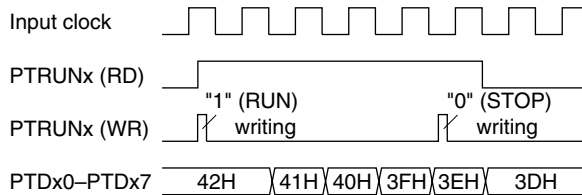

Fig. 4.11.10.1 Timing chart for RUN/STOP control
- (1) When reading counter data, be sure to read the low-order 4 bits (PTDx0–PTDx3) first. Furthermore, the high-order 4 bits (PTDx4–PTDx7) should be read within 0.73 msec (when  $f_{OSC1}$  is 32.768 kHz) of reading the low-order 4 bits (PTDx0–PTDx3).
- (2) The programmable timer actually enters RUN/STOP status in synchronization with the falling edge of the input clock after writing to the PTRUNx register. Consequently, when "0" is written to the PTRUNx register, the timer enters STOP status at the point where the counter is decremented (-1). The PTRUNx register maintains "1" for reading until the timer actually stops. Figure 4.11.10.1 shows the timing chart for the RUN/STOP control.